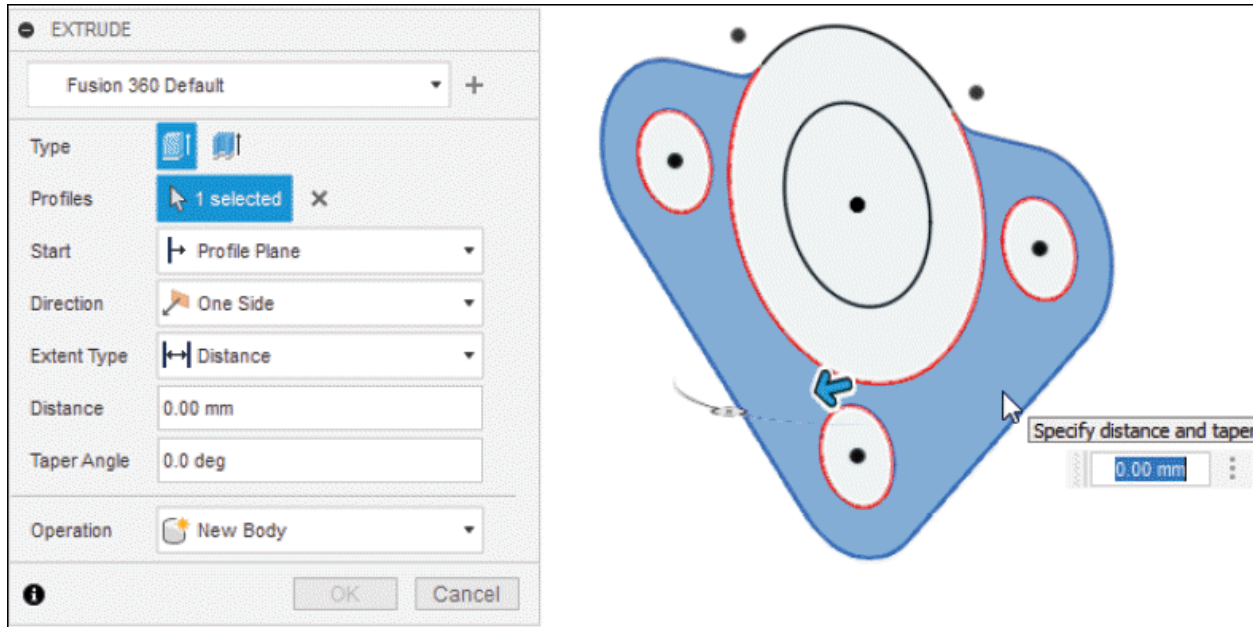

Figure-43. Extruding the sketch
- Profile selection is active by default. Select the profile from the sketch as shown in Figure-43.